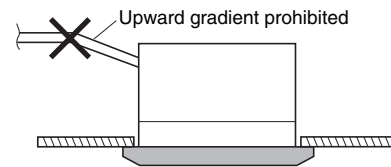

Fig. 3-10
- Do not install the pipe with an upward gradient from the connection port. This will cause the drain water to flow backward and leak when the unit is not operating. (Fig. 3-10)